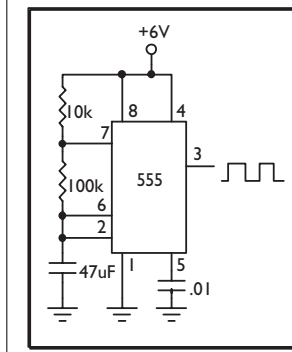

Figure 7
A. The answer is a qualified yes. Yes, I can provide a fader circuit using transistors, but it requires three transistors, or more, plus a handful of resistors and capacitors. However, you might want to try the circuit in Figure 7. It's compact, cheap, and easily tucked into a small space. The problem is that the Direction pin has to be toggled between Vcc and GND to create the cycling effect. This signal can be supplied by a square-wave generator, like the 555 oscillator shown in the insert box, which can be located far away from the LED itself (notice that a third wire is required) and can be used to drive more than one LED fader. Unfortunately, the Direction signal has to be synchronized with the time constant of the RC combination to be fully effective. Otherwise, you get one with a lot of on/off time lag (which may be beneficial in some situations).